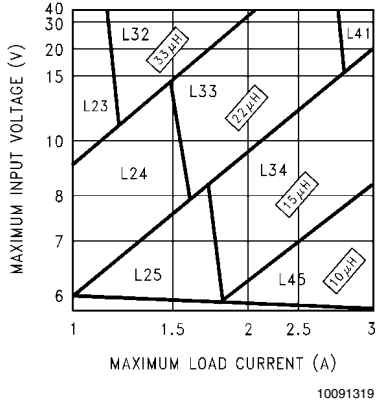
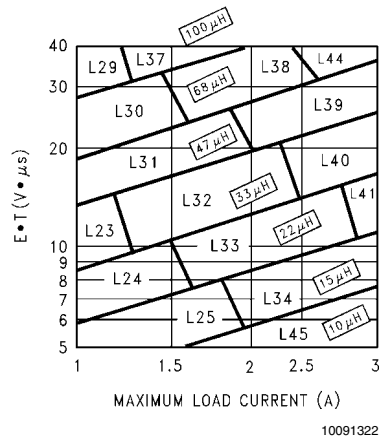

FIGURE 3. LM2673-3.3
FIGURE 6. LM2673-ADJ
Step 3: Determine the inductor required by using one of the four nomographs, *Figure 3* through *Figure 6*. Table 1 provides a specific manufacturer and part number for the inductor.
Step 5: Determine an input capacitor from Table 4 for fixed output voltage applications. Use Table 2 to find the specific capacitor type. For adjustable output circuits select a capacitor from Table 2 with a sufficient working voltage (WV) rating greater than $V_{in\ max}$, and an rms current rating greater than one-half the maximum load current (2 or more capacitors in parallel may be required).
Step 3: Use the nomograph for the 3.3V device, *Figure 3*. The intersection of the 16V horizontal line ($V_{in\ max}$) and the 2.5A vertical line ($I_{load\ max}$) indicates that L33, a 22 μ H inductor, is required.
Step 3: To use the nomograph for the adjustable device, *Figure 6*, requires a calculation of the inductor Volt•microsecond constant ($E \cdot T$ expressed in $V \cdot \mu s$) from the following formula:
Using *Figure 6*, the intersection of $27V \cdot \mu S$ horizontally and the $2A$ vertical line ($I_{load} \text{ max}$) indicates that L38, a $68\mu H$ inductor, should be used.
Important Note: When using the adjustable device in low voltage applications (less than $3V$ output), if the nomograph, *Figure 6*, selects an inductance of $22\mu H$ or less, Table 6 does not provide an output capacitor solution. With these conditions the number of output capacitors required for stable operation becomes impractical. It is recommended to use either a $33\mu H$ or $47\mu H$ inductor and the output capacitors from Table 6.